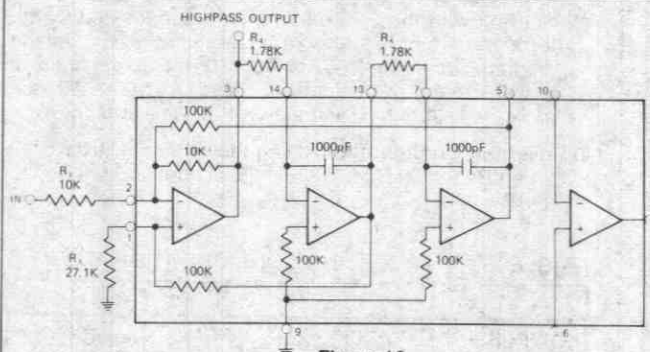

Figure 10. Highpass Filter Example
4. This completes the highpass filter design which is shown in Figure 10. When using this filter, care should be exercised so that clipping does not occur in the filter due to excessive input levels. If clipping occurs, the filter will not operate properly. Clipping will first occur at the lowpass output around f_0 since its gain is 20 dB higher than the highpass output. The signal level should be reduced so that clipping does not occur anywhere in the frequency range used. If higher signal level is required, the highpass output should be amplified by a gain stage using the uncommitted op amp.